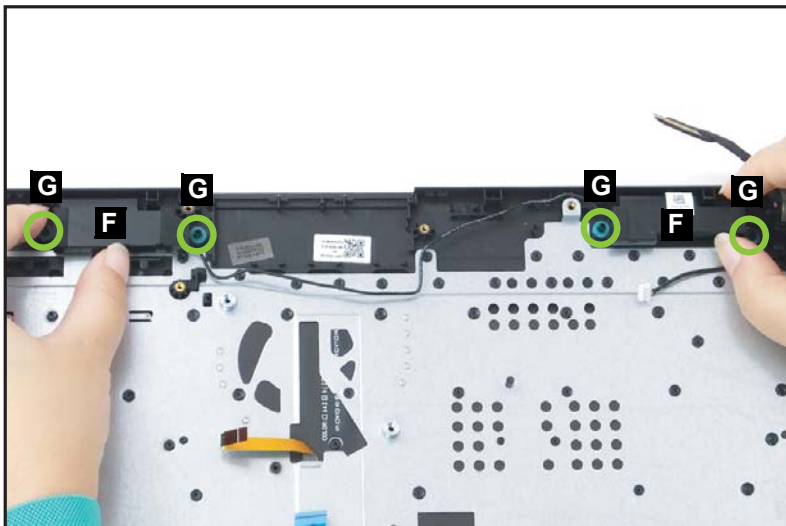

Figure 1-45. Speaker Module Removal
4. Release both speakers (F) from the guide pins (G), and then remove the speakers from the top assembly (Figure 1-45).